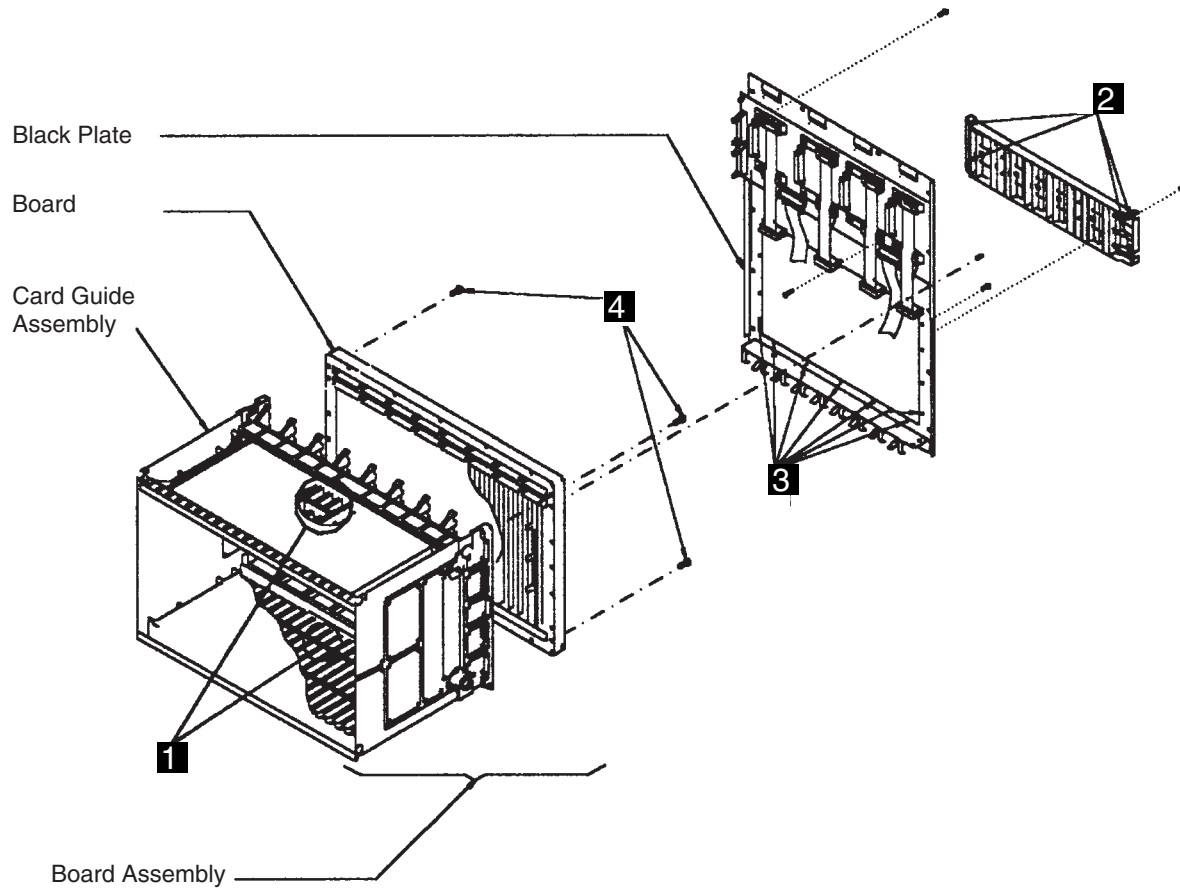

Figure 4-125. Board Assembly
19. Refer to Figure 4-125. At the front of the board, loosen the brackets **1** which maintain the flat cables at the top and bottom of the board (rows Y and Z). Remove those cables from the board.
- a. Refer to Figure 4-125.
1. Attach the card guide assembly to the new board using the four screws **4**. Refer to Figure 4-125 on page 4-135.
3. Refer to Figure 4-125 on page 4-135. Ensure that there are no bent pins on the board.